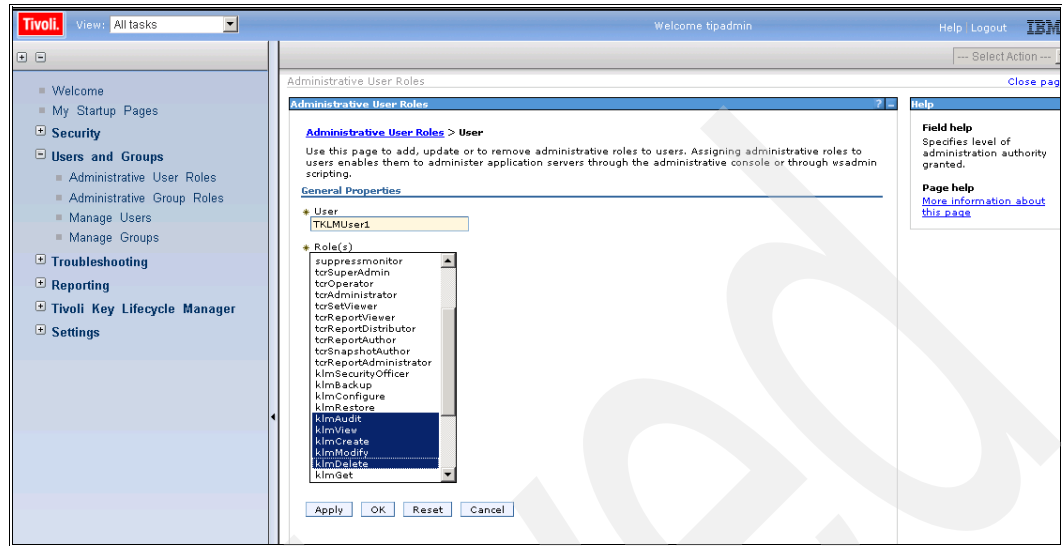

Figure 9-9 Selecting administrative user roles
- Enter the name of the user you want to add, select the appropriate roles, and click **OK** (Figure 9-9).